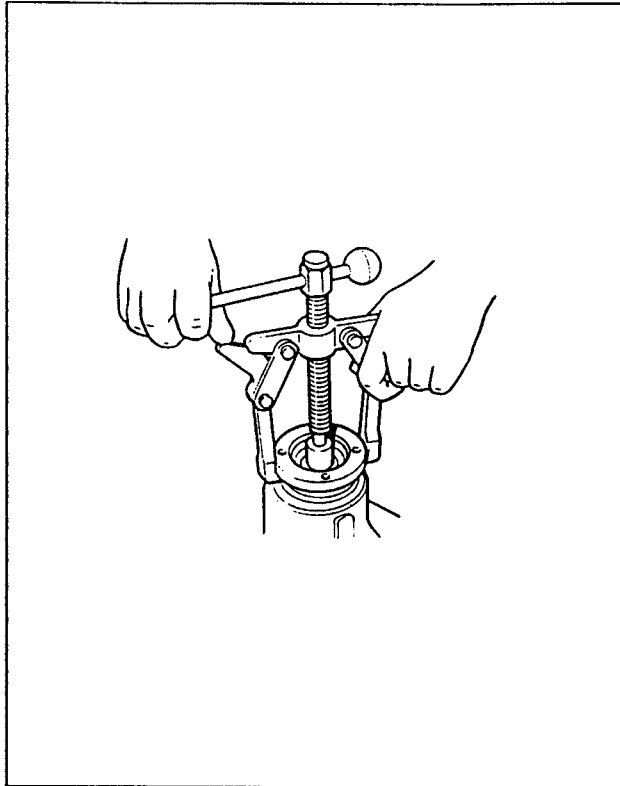

Fig. 13 Removing the pinion flange
16. Pull off the pinion flange (Fig. 13) using the special tool 18G 2. Never attempt to drift the flange off the pinion shaft.